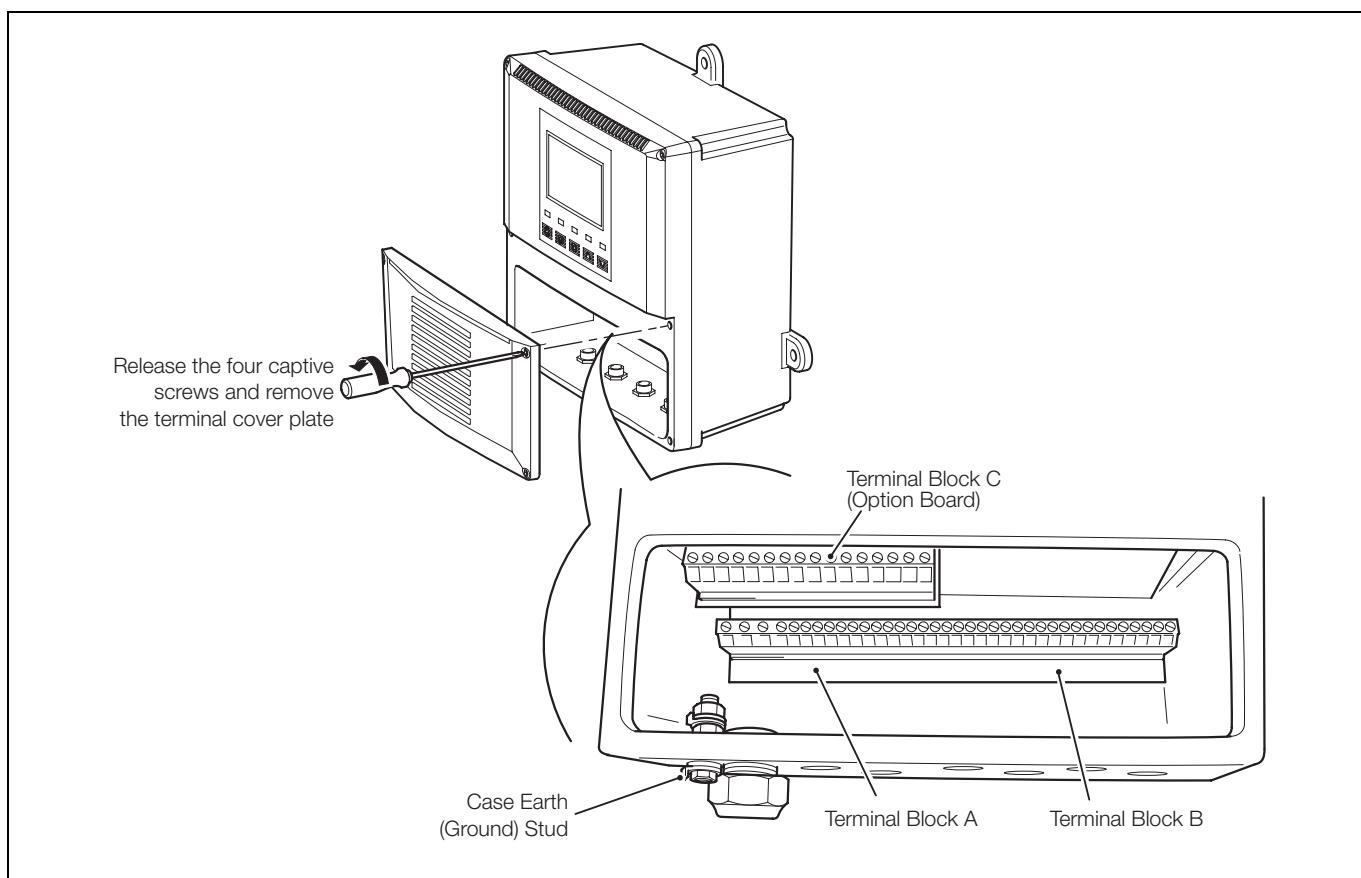
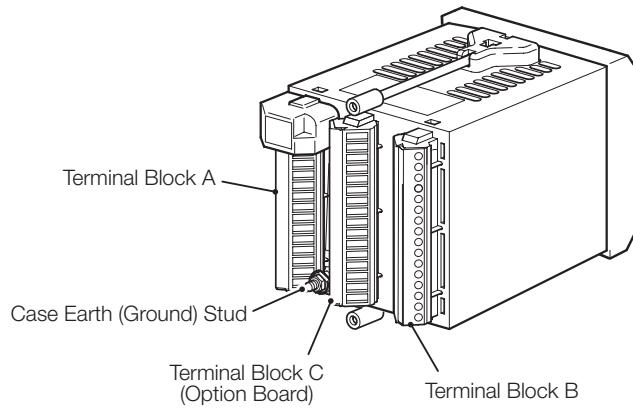

Fig. 6.8 Access to Terminals, Wall-/Pipe-mount Analyzer
Fig. 6.10 Access to Terminals, Panel-mount Analyzers
- The power supply earth (ground) **must** be connected to the earth (ground) stud on the analyzer case – see Fig. 6.8 (wall-/pipe-mount analyzers) or Fig. 6.10 (panel-mount analyzers).
- An earthing (grounding) – stud terminal is fitted to the analyzer case for bus-bar earth (ground) connection – see Fig. 6.8 (wall-/pipe-mount analyzers) or Fig. 6.10 (panel-mount analyzers).
- b. Connect the millivolt source to terminals B14 (-ve) and B16 (+ve) to simulate the pH or Redox input. Connect the millivolt source earth to the Case Earth (Ground) Stud – see Fig. 6.8 (wall-/pipe-mount analyzer) or Fig. 6.10 (panel-mount analyzer).
- b. Connect the millivolt source to terminals B6 (-ve) and B8 (+ve) to simulate the pH or Redox input. Connect the millivolt source earth to the Case Earth (Ground) Stud – see Fig. 6.8 or (wall-/pipe-mount analyzer) or Fig. 6.10 (panel-mount analyzer).